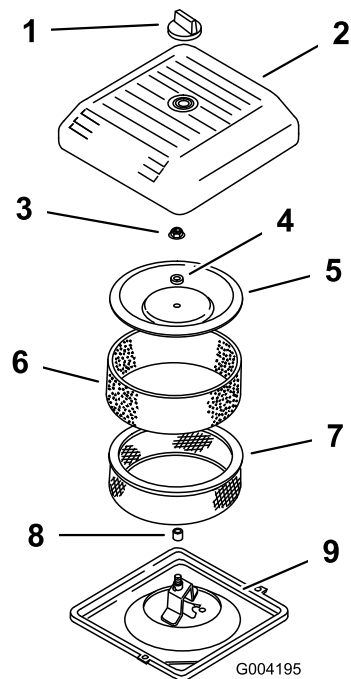

Figure 144
3. Unscrew the knob and remove the air-cleaner cover (Figure 144).
- Carefully slide the foam pre-filter off the paper element (Figure 144).
- Unscrew the cover nut and remove the cover, spacer, and paper filter (Figure 144).